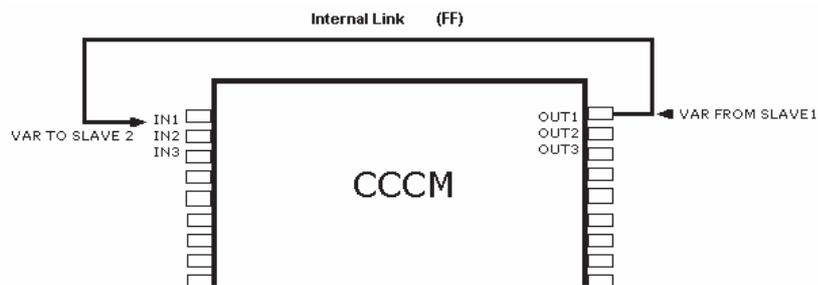

Figure 4.7 – Peer-to-peer Connection in the CCM Block
- **By “Link” in the Strategy** – in this case a link must be made between the wished input and output. The Figure 4.7 shows this connection using “Link”.